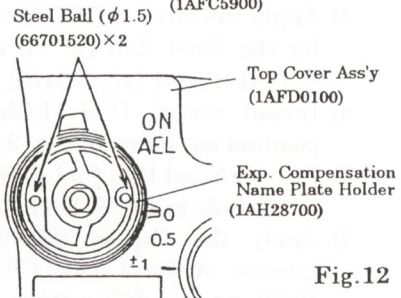

Fig. 12
- 5) Install the Exp. Compensation Dial Holder in the position as shown in Fig. 12.